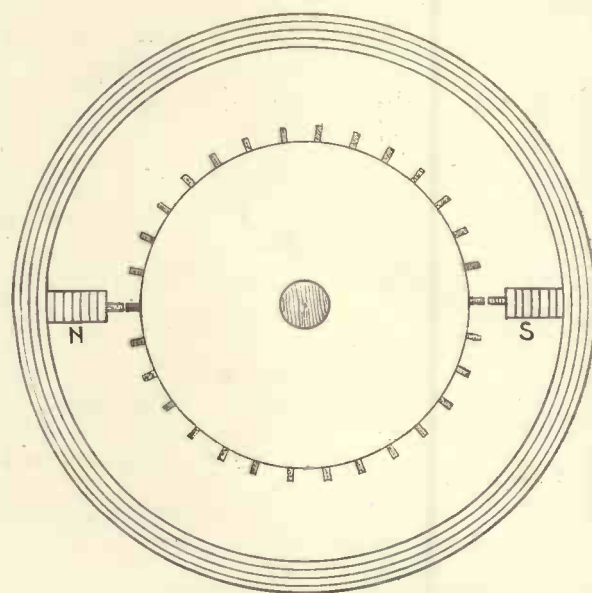
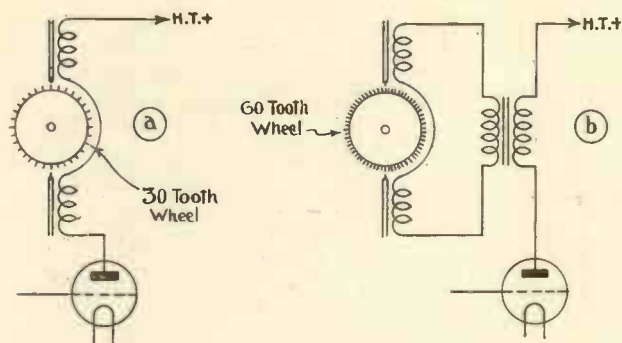
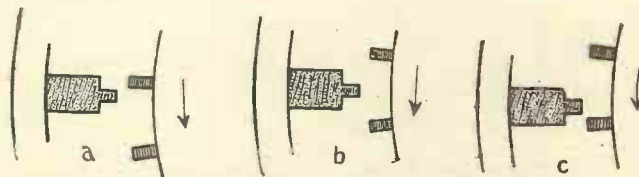

Fig. 2.—Diagram showing the toothed wheel synchronising device.
Fig. 4.—Synchronising arrangements using 30 and 60 toothed wheels.
Fig. 5.—Diagrams showing how the magnets control the speed of the scanner
As there are 375 scanning strips per second, we get an A.C. signal of that frequency (375), which is, of course, far from being of sine wave form. At the receiver this 375-cycle signal is passed through the coils of magnets N and S, Fig. 2, but as these coils are in series with the H.T. battery, and anode of the valve, as in a, Fig. 4, the A.C. signal will be superimposed on a steady D.C. current, and will, if once started, rotate the toothed wheel at 12.5 times per second. If the output circuit was of the type shown in Fig. 4 b, the number of teeth in the wheel would have to be increased to 60, which means that double the impulses are applied to the toothed wheel, and in consequence there is less likelihood of "hunting."
Now we must analyse what happens. Supposing a toothed wheel, of which only two teeth are shown (a, Fig. 5) is rotating in the direction of the arrow, and is running speed for speed with the transmitter motor. A 375-cycle impulse arrives and the effect on the wheel is to pull the tooth opposite the pole piece N, thereby accelerating the rotation. Now if the rotating mass is small compared to the power in the pole piece, the wheel will rapidly accelerate, and when coming opposite N, as in Fig. 2, will be retarded till the impulse has died down, and will in consequence rotate in a series of jerks, which are, however, generally smoothed out owing to the momentum of the moving mass.
there are thirty teeth, they are divided by twelve degrees, the space between the teeth occupying ten degrees, and the teeth two degrees, the reason for which will be discussed later. This toothed wheel revolves between the poles of a magnet, diagrammatically shown in Fig. 2. The pole pieces N and S are energised by current in the coils (not shown in figure) on the pole pieces. If D.C. current is passed through the coils the magnetism produced will pull the toothed wheel so that a tooth will come opposite each pole piece, while if we superimpose an A.C. current in the coils, say, of 50 cycles and give the wheel a start, it will continue to revolve, in fact becomes a synchronous motor.
If, on the other hand, the rotation of the receiver was slightly less than that of the transmitter motor, the impulse will obviously help to speed up the receiver. When the receiver is running slightly faster, the impulse will first tend to further increase the speed till such time as when the teeth are opposite the pole pieces when the impulse arrives and will act as a retarding force. If the synchronising impulse arrives when the pole piece is equi-distant from two teeth as in b, Fig. 5, its effect is practically nil while in c, Fig. 5, it will definitely retard.
When the receiver is running slower than the transmitter this retardation will eventually produce a state of affairs as in a, Fig. 5, when the impulses will begin to produce an acceleration. From the above a little thought will show that this form of synchronising device works best when the receiving motor is just tending to accelerate on that of the transmitter.
One may wonder how such a signal may become ineffective for synchronising. Supposing a blank screen is being televised and the driving motor adjustments are such that the synchronising impulses arrive, say, as in Fig. 5 a, which will help the receiver to keep up to the transmitter's speed of rotation. Now a black bar is placed across the blank screen producing a second series of impulses, as already described, and this second impulse may arrive as a tooth is leaving the pole piece as at c, Fig. 5; its retarding effect will cause the receiver to run slow or out of synchronism.
full-length figures and the reason is not hard to see. Such subjects rarely produce any signal resembling that of secondary synchronising impulses. This is not the case with a close-up. The line of the shoulders in the case of dark clothing has the effect of increasing the time period of the synchronising impulse as well as reducing its "sharpness" (see c, Fig. 2), and in a usual "close-up," the biggest impulse will probably be the white strip of the background over the head which the receiver will most likely select to synchronise on.